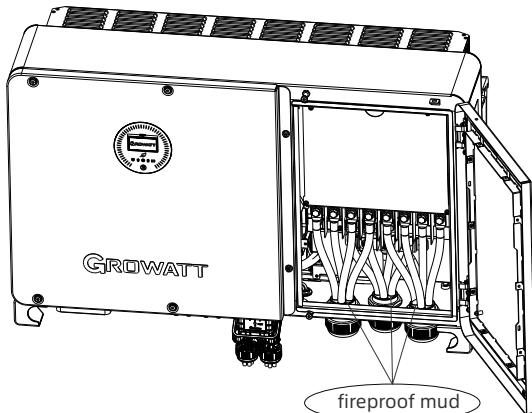

Fig 6.13 Applying fireproof mud
- After connecting the cables, apply fireproof mud to the waterproof silicone mat at the inlet side. Lock the cover of the AC junction box after the fireproof mud is applied. See Fig 6.13 below.